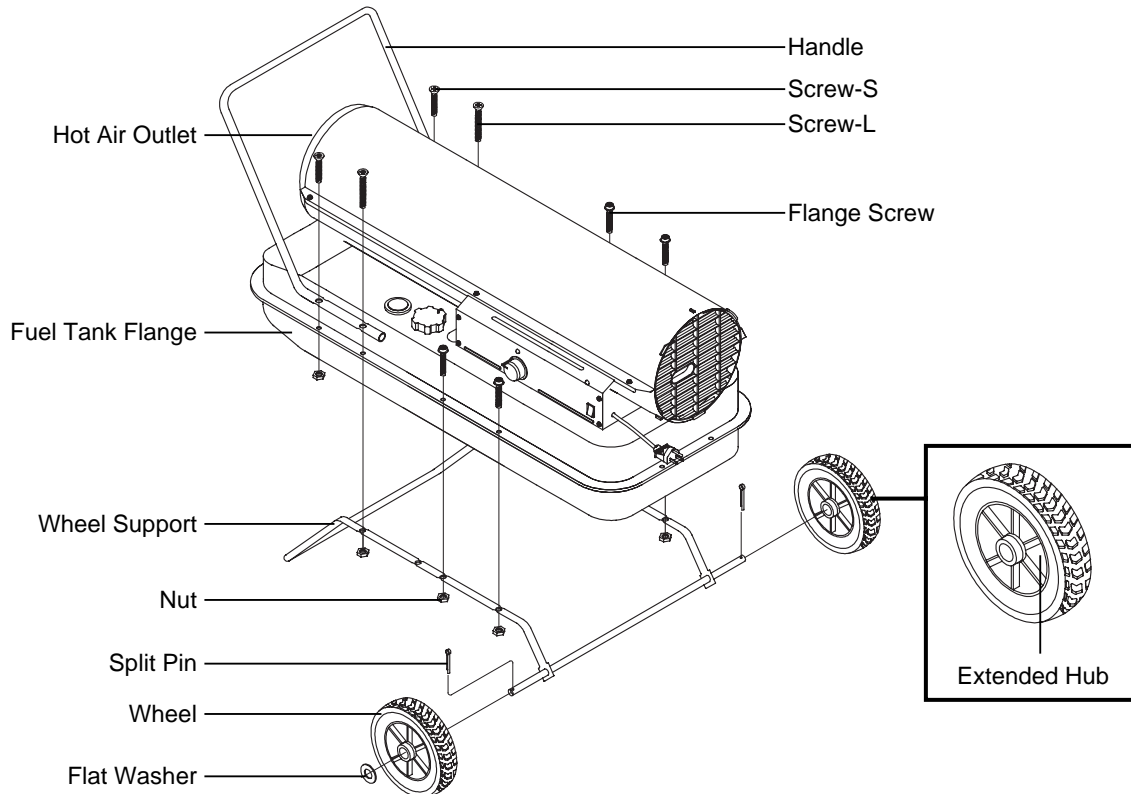

Figure 7. Wheel and Handle Assembly, DFA-125T MODEL ONLY
B. For DFA-125T / DFA-170C / DFA-210C Models Only (Figure 7, 8)
NOTE : When installing wheels, point extended hub of wheels toward wheel support frame (See Figure 7)
4. Position the handle on top of fuel tank flange. Insert screws through handles, fuel tank flange, and wheel support frames as shown in Figure 7 and attach nut finger tight after each screw is inserted.